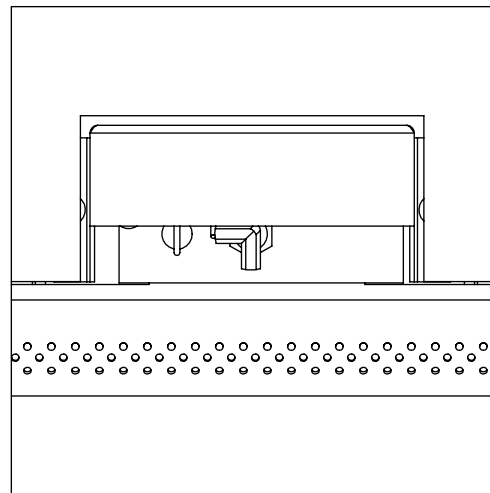

Figure 24. Correct Pilot
8. Reinstall the burner, log set, and glass door. Also refer to **SECONDARY INSTALLATION - LOG SET INSTALLATION** in your Owner's Manual. When re-installing the burner, ensure that the burner to pilot hood and shield relationship is similar to what is shown in Figure 24.